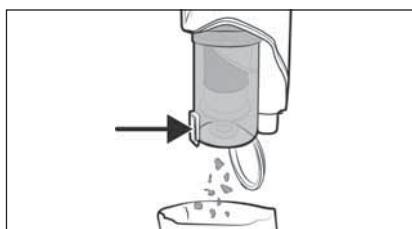

Fig. 16
- Empty the dust container ⑥ and clean the stainless steel filter ⑤ and the HEPA filter ④ when the dust container ⑥ level reaches the MAX mark.
- 1) Hold the dust container ⑥ in a waste bin and press the release button for the dirt container lid ⑦. The dust container lid ⑧ opens and the contents are emptied into the waste bin (see Fig. 16). Then close the dust container lid ⑧.